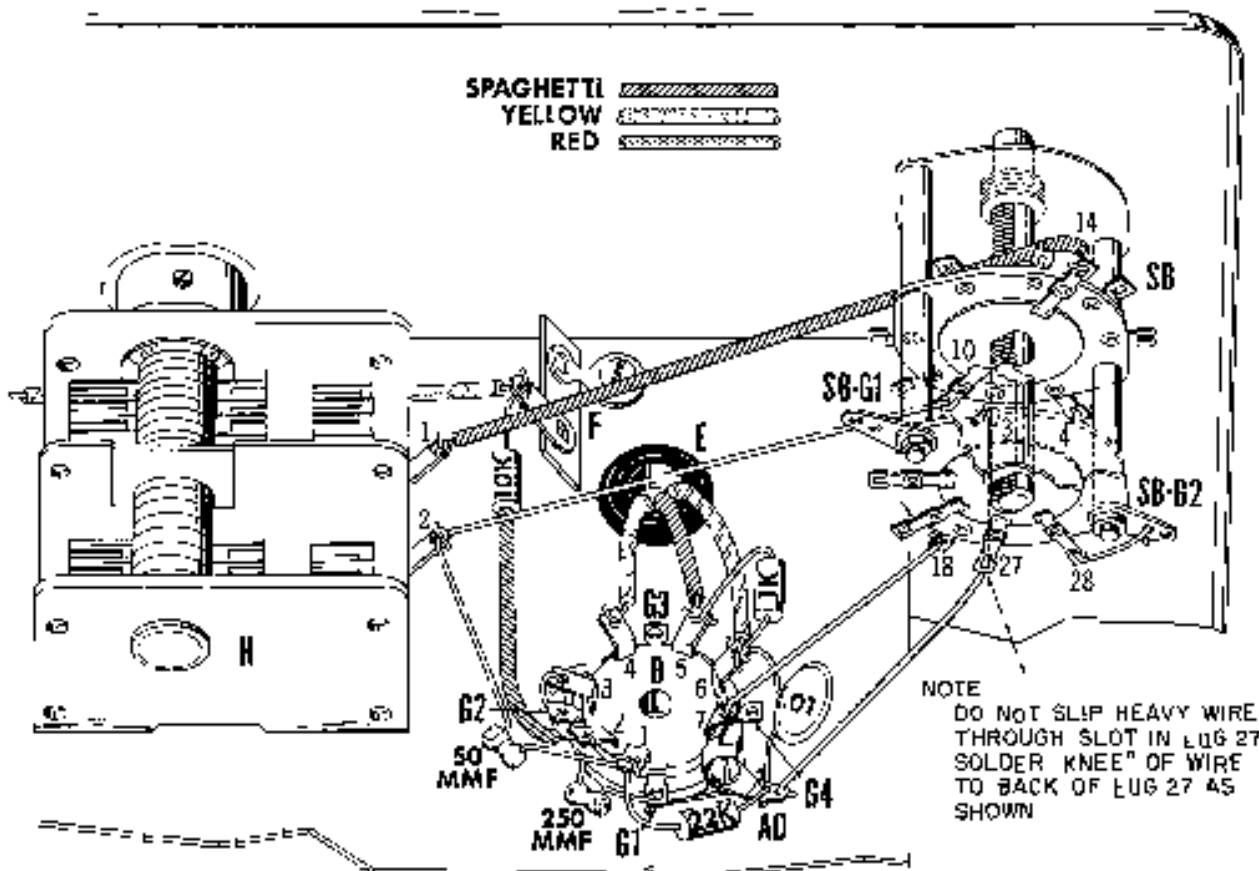

FIGURE 6
REFER TO FIGURE 6.
- ( ) 16. Connect one end of a 7-1/2" length of yellow wire to F1 (Solder). Dress the wire to the left along the chassis as shown in Figure 6. Leave this end free.
- ( ) 26 Slip a 4" length of large-diameter spaghetti on the pre-cut 4-1/8" length of heavy wire. Connect this wire from band switch terminal SB14 (Solder) to H1 (Solder). Be sure that the wire does not touch the rotor or any other part of the band switch. See Figure 6.
- ( ) 27 Connect the pre-cut 2-9/16" length of heavy wire from H2 (Don't Solder) to SB10 (Solder). See Figure 6.
- ( ) 29 Connect the pre-cut 1-7/8" length of heavy wire from SB16 (Solder) to D7 (Solder). See Figure 6.
- ( ) 30 Refer to Fig. 6 and slip the short end of the pre-cut and pre-formed L-shaped heavy wire into SB-3. Slip the other end into the lug hole on AD farthest from the mounting screw. Adjust the position of the wire so that the "knee" rests against back of SB-27. Now solder the three connection points — SB-3, SB-27 and AD.
- ( ) 31 Slip a 1-3/4" length of thin bare wire through SD28 to SB4 (Solder). Connect the other end to ground lug SB-G2 (Don't Solder). Now solder SB28. See Figure 6.